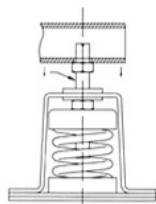
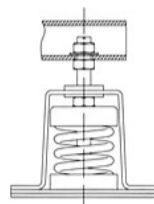

figure 4
figure 5
- 4、 Under the static load action of unit, load could be transmitted to inner spring cover of base rubber,steel spring and base rubber plate throught screw rod. As figure 4.
- 5、 Fix the base plate of unit to the anti-vibration mount through locking nut① and gasket②.
- (Do not tighten the screw nut too much) As figure 5.